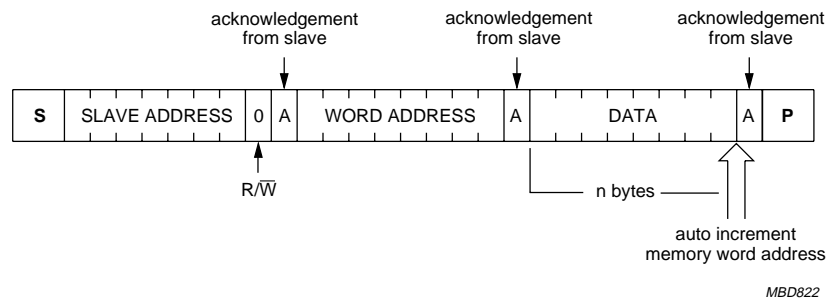

Fig 11. Master transmits to slave receiver (write mode).
**Clock/calendar read/write cycles:** The I2C-bus configuration for the different PCF8563 read and write cycles are shown in Figure 11, 12 and 13. The word address is a four bit value that defines which register is to be accessed next. The upper four bits of the word address are not used.